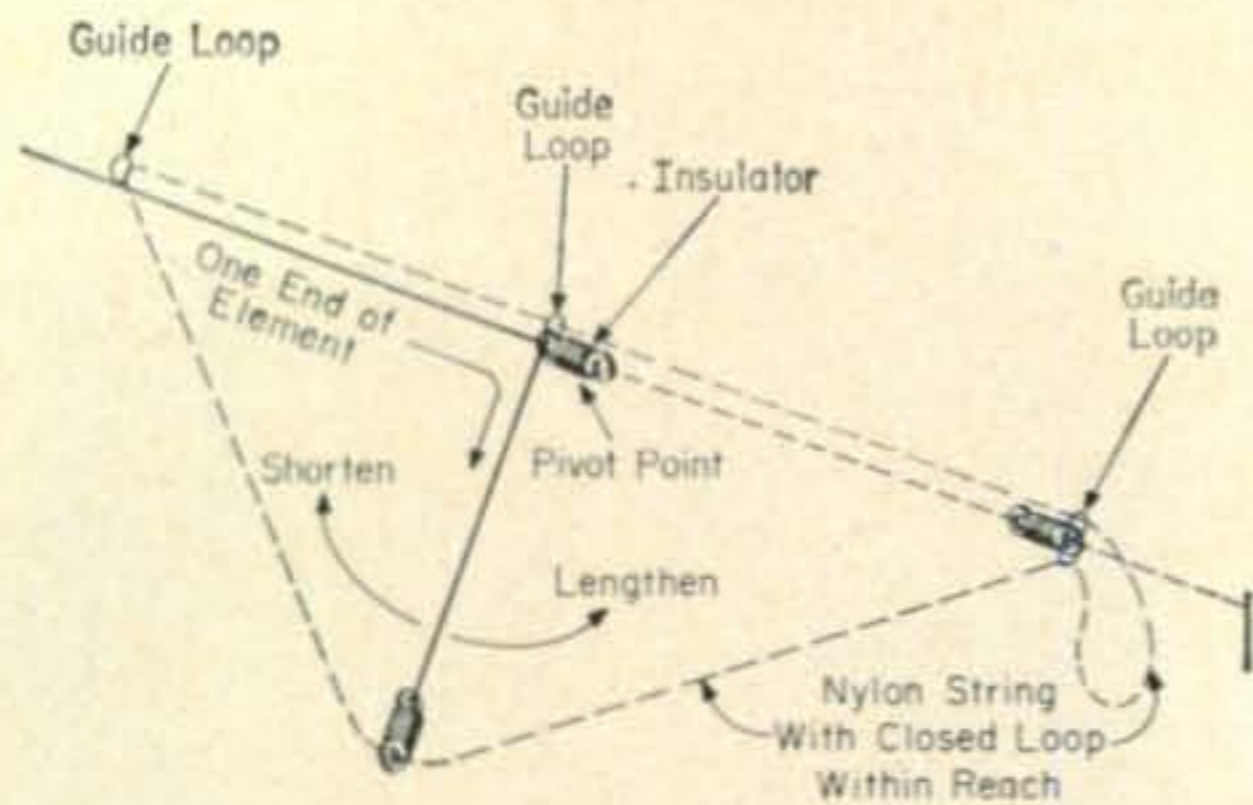

Fig. 2—Tuning is accomplished at one end of the element using this nylon loop adjustment system.
Fig. 2—Basic circuitry for field-effect transistors as used in the Davco DR-30. Both transistors are channel junction tetrode f.e.t.'s. Note that the polarity at the source (S) and drain (D) terminals of the two f.e.t.'s is reversed. Q₁ is a P channel, Q₂ is an N channel. The input transistor is protected with D₁ and D₂ from damage by strong r.f. pickup. L₁ and C₁ comprise the 6-meter antenna-matching affair. The R.F. GAIN, R₁, is an attenuator at the antenna input. The input-signal level is maximum when the arm is at a, the crystal-calibrator signal is maximum when the arm is at b.
If the droop angle is less than 90°, add wire to the calculated length (or *vice-versa*) if you hope to hit resonance. The arrangement for adjusting the length for tuning is shown in fig. 2. Make a pivot point about 3 feet from the end of the element so that this 3 feet may be added or cancelled by pulling the strings.